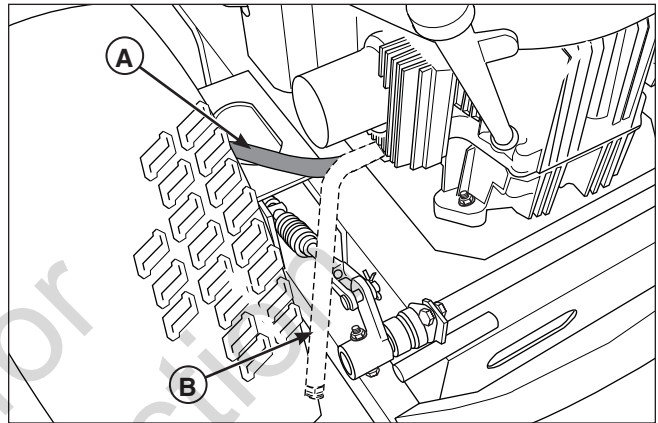

Figure 8. Engine Oil Drain (Kawasaki Model Shown.)
2. Remove the oil drain hose (A, Figure 8) from the storage position on the left-hand side of the engine deck and route over the side of the engine deck and behind the tire as shown in Figure 8.